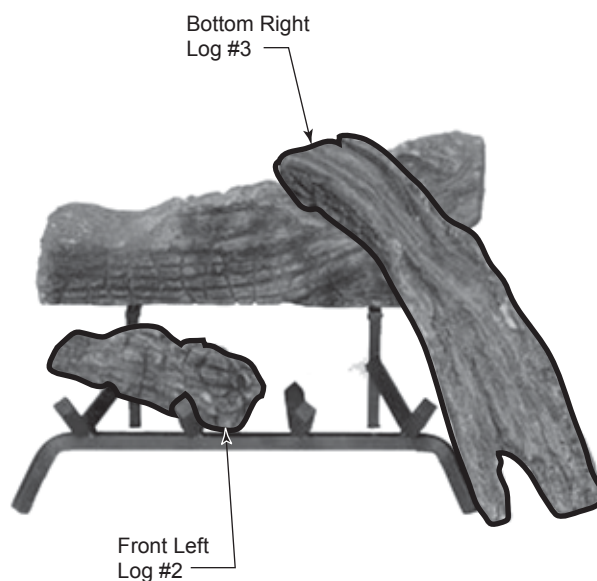

**Figure 59 -
3. Place Front Left Log #2 in front of back log on left arm of grate. Rest end of bottom left log between second and third prong of grate. *Figure 59*
4. Place end of Bottom Right Log #3 on cutout of back log #1. Rest other end of right bottom log to the outside of fourth grate prong. *Figure 59*